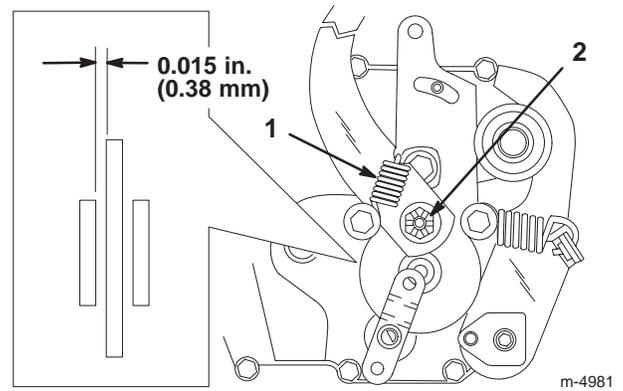

Figure 22
The brake is on the right side of the rear axle, inside the rear tire (Fig. 22). If the brake does not hold securely or stopping power is insufficient, an adjustment is required.
- Remove the brake arm spring (Fig. 22).
- Remove the cotter pin that secures the brake adjusting nut and slightly loosen the nut (Fig. 22).
- Insert a 0.015 in. (0.38 mm) feeler gauge between the brake disc and the brake puck (Fig. 22).